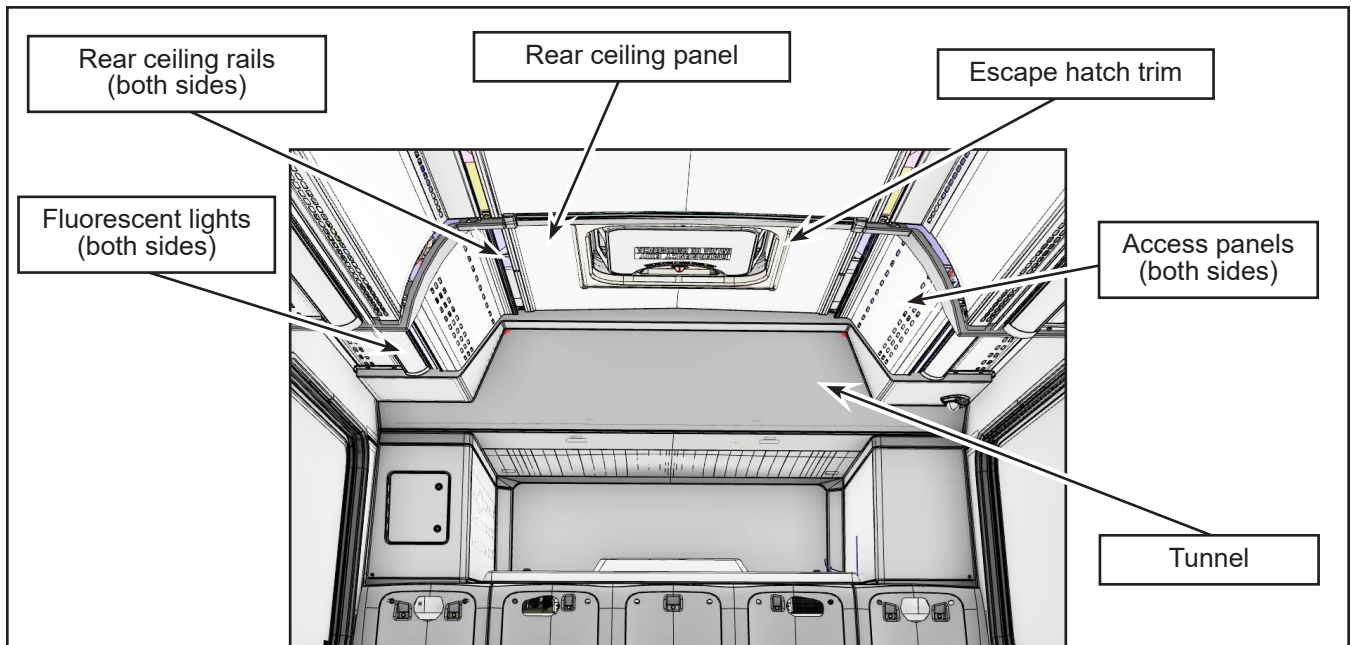

Figure 4 - Components to Remove Inside Passenger Compartment to Access N81042-01
- 2.2.1. Inside the vehicle, to access and be able to remove the pipe N81042-01, remove the following components (see Figure 4):